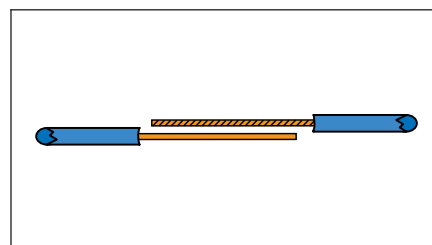

Figure 1 Strip and Tin Wires
3. Strip the wires. Each wire end should have the same length of insulation removed so that they appear identical. Each wire end should be stripped a minimum of four (four) wire diameters (a wire diameter is the outside diameter of the insulator which covers the conductor). Pre-tin wires in accordance with guidelines in paragraph 7 in 8.1. (See Figure 1.)